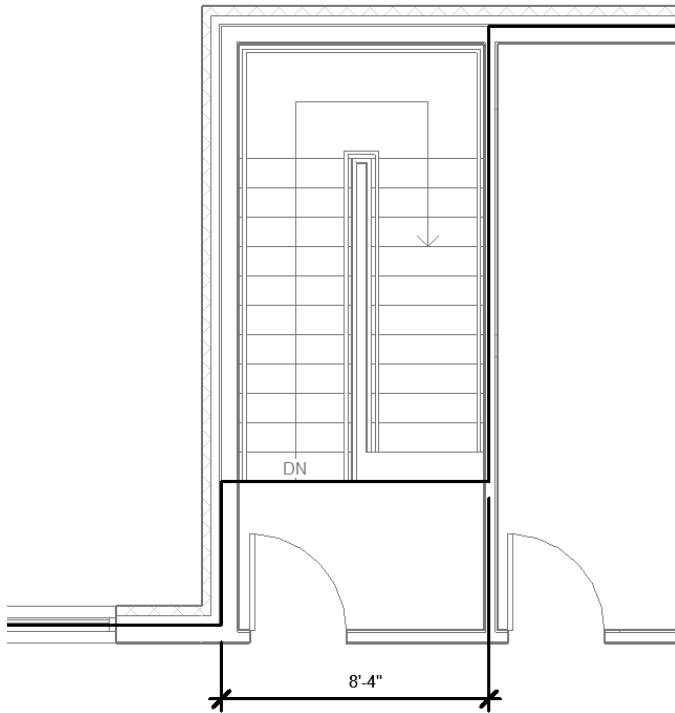

FIGURE 7-3.9
23. Zoom into the North stair, and make the edits shown in Figure 7-3.9.